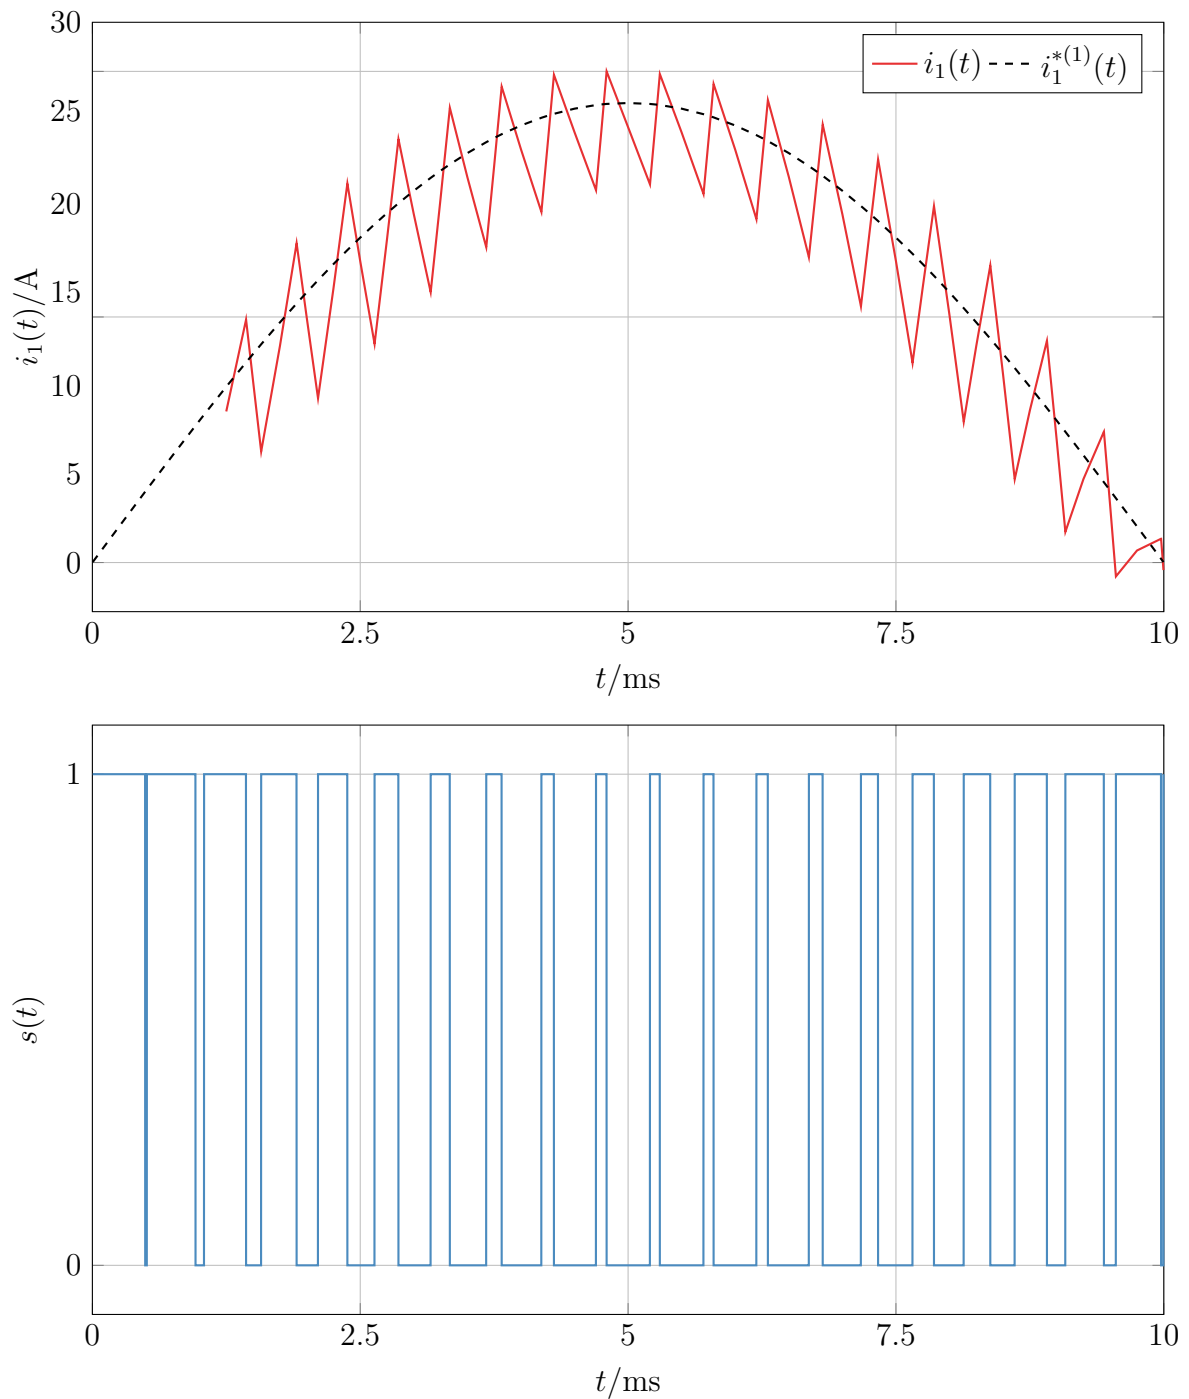

Figure 5.2.2: Incomplete representation of the mains current  $i_1(t)$  and control signal  $s(t)$  for power transistor  $T$ .
5.2.4 Complete the current curve for a switching frequency  $f_{s2} = 2$  kHz and an inductance  $L = 5$  mH in Fig. 5.2.2. Note: At the time  $t = 0$  is  $i' = 0$ . The switch-on and switch-off times are determined by the control signal of the transistor  $T$  and are summarized for the first 4 switching times in Tab. 5.2.2.
5.2.5 Approximately sketch the envelope of the current ripple in Fig. 5.2.2. Sketch the voltage across the inductor in Fig. 5.2.3 and enter the average value of the voltage as an approximation. How would the switch-on/switch-off ratio of the transistor have to be changed before and after the current peak in order to bring the average actual current value closer to the current setpoint?
Solution Figure 5.2.2: Reference signal  $c(t)$  and duty cycle signal  $d(t)$ .